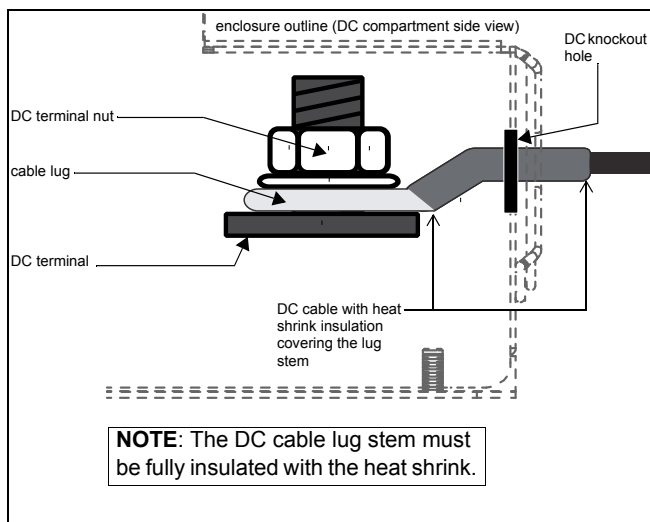

Figure 5 DC Cable Connections
Refer to Figure 5.
7. Attach the cable lug that will join the cable to the inverter DC terminal. Cover the lug stem with heat shrink insulation (see Figure 5) to ensure that the lug does not touch the enclosure.
11. Fasten the DC terminal nut (set aside earlier) to the terminal bolt. Tighten the nut to a torque of 71–80 in-lbf (8–9 N-m). Do not overtighten. Make the connection snug enough so the cable lug does not move around on the DC terminal. Center it through the DC knockout hole and do not let it touch the edge. See Figure 5, "DC Cable Connections" on page 28.